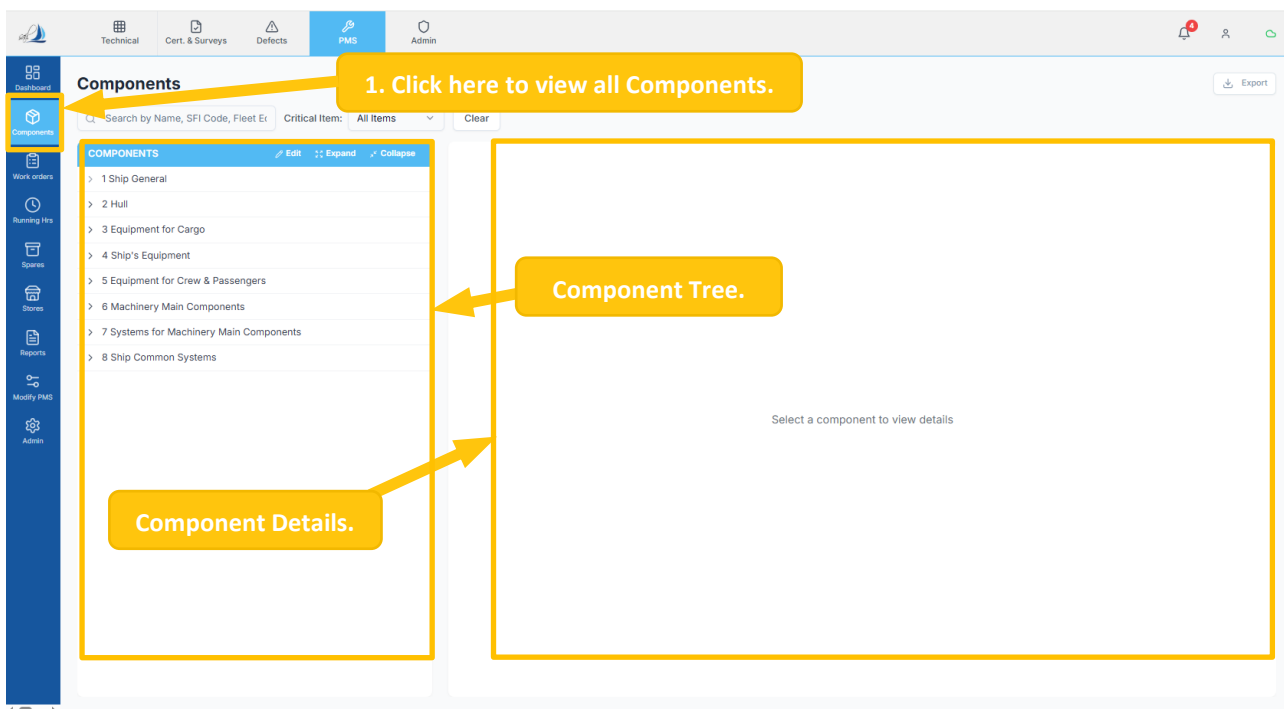

Figure 13
- Click the 'Components' sub-sub-module to view lists of all Components. (Ref Figure 13)
- Component Tree – Hierarchical navigation of equipment categories (1-8). Click to expand; click a component to view details. (Ref Figure 13)
- Component Details – Full information for the selected component, including Component Information, Running Hours & Condition Monitoring, Jobs, Spares, Maintenance History, Drawings & Manuals, Classification & Regulatory Data, and Requisitions. (Ref Figure 13)